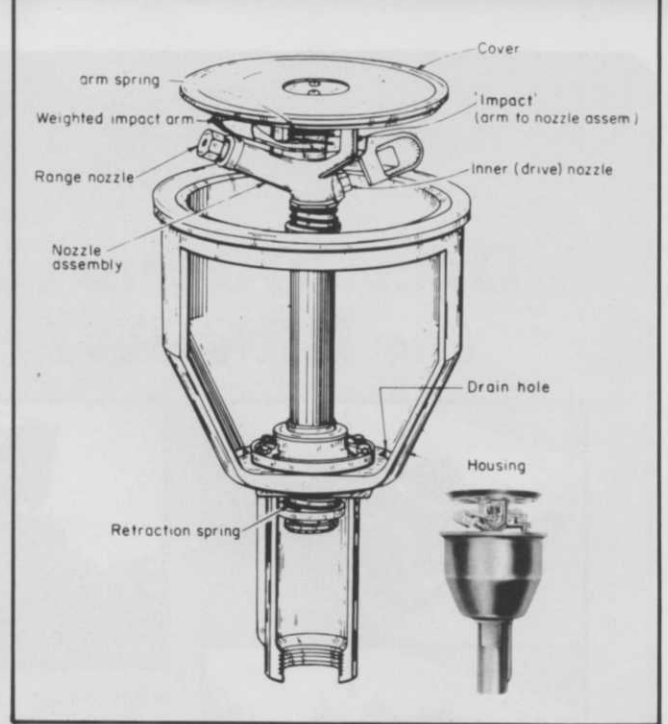

Figure 6: Impact drive rotary sprinklers are rotated by water impacting against a spring-loaded drive arm.
**IMPACT DRIVE ROTARY HEADS.** The impact drive rotary sprinkler employs a weighted, spring-loaded drive arm to provide the force to rotate the nozzle assembly. The sprinkling stream deflects the arm sideways and the spring pulls the arm back to the nozzle assembly and into the path of the stream. As the drive arm completes each swing cycle it impacts against the nozzle assembly rotating it slightly. See Figure 6. Most models of this type of sprinkler are available in both full-circle and part-circle.